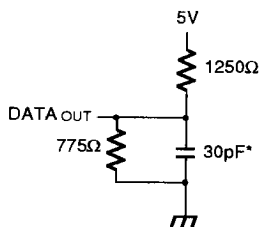

Figure 1. Output Load
Output Load	See Figures 1, 2 & 3
1. Transition is measured ±500mV from low or high impedance voltage with load (Figures 1, 2 and 3).
- 1. Transition is measured $\pm 500\text{mV}$ from low or high impedance voltage with load (Figures 1, 2 and 3).